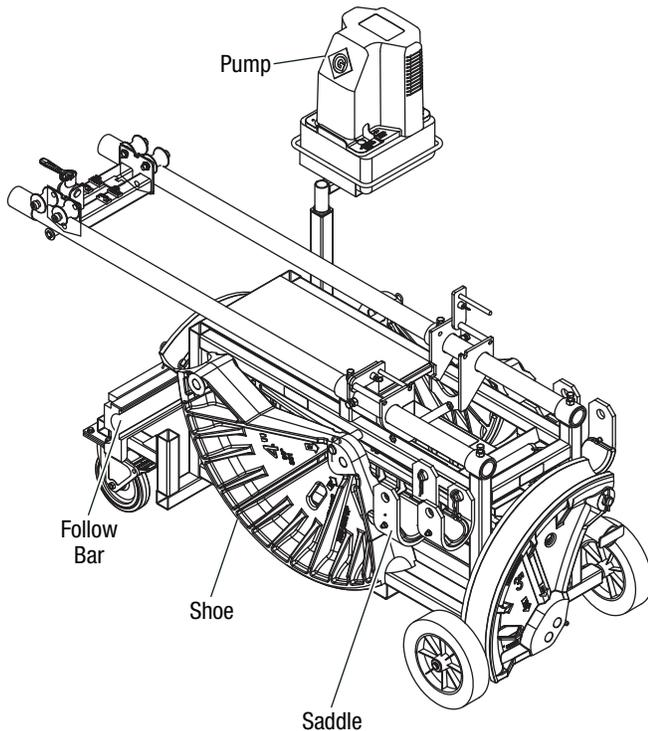

Figure 1
1. Position shoes, follow bars, saddles, and pump as shown in Fig. 1 and 2.